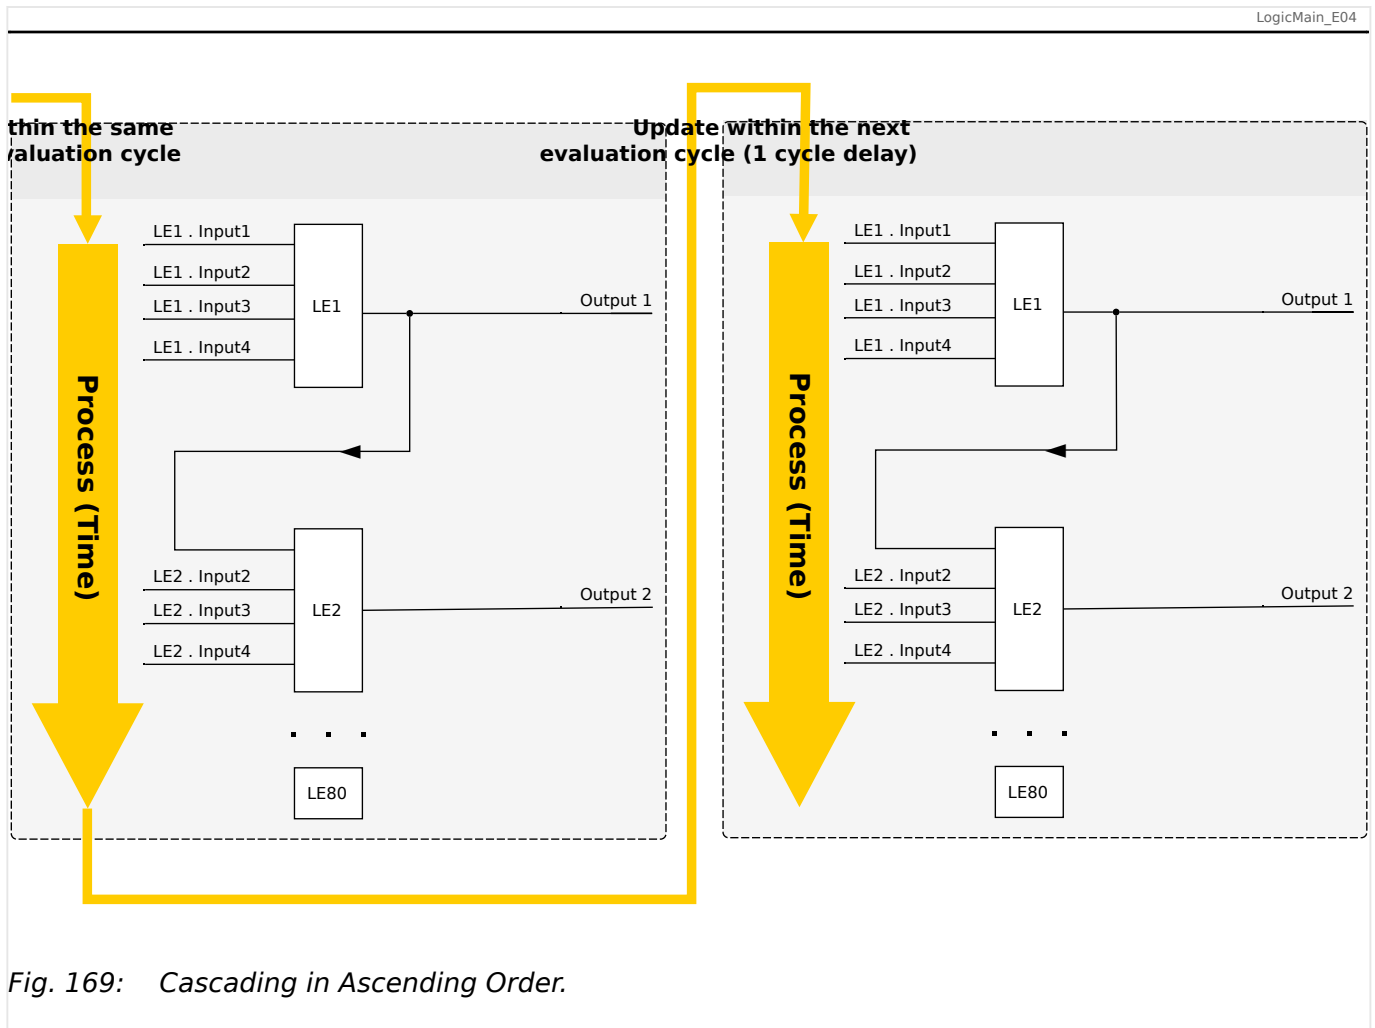
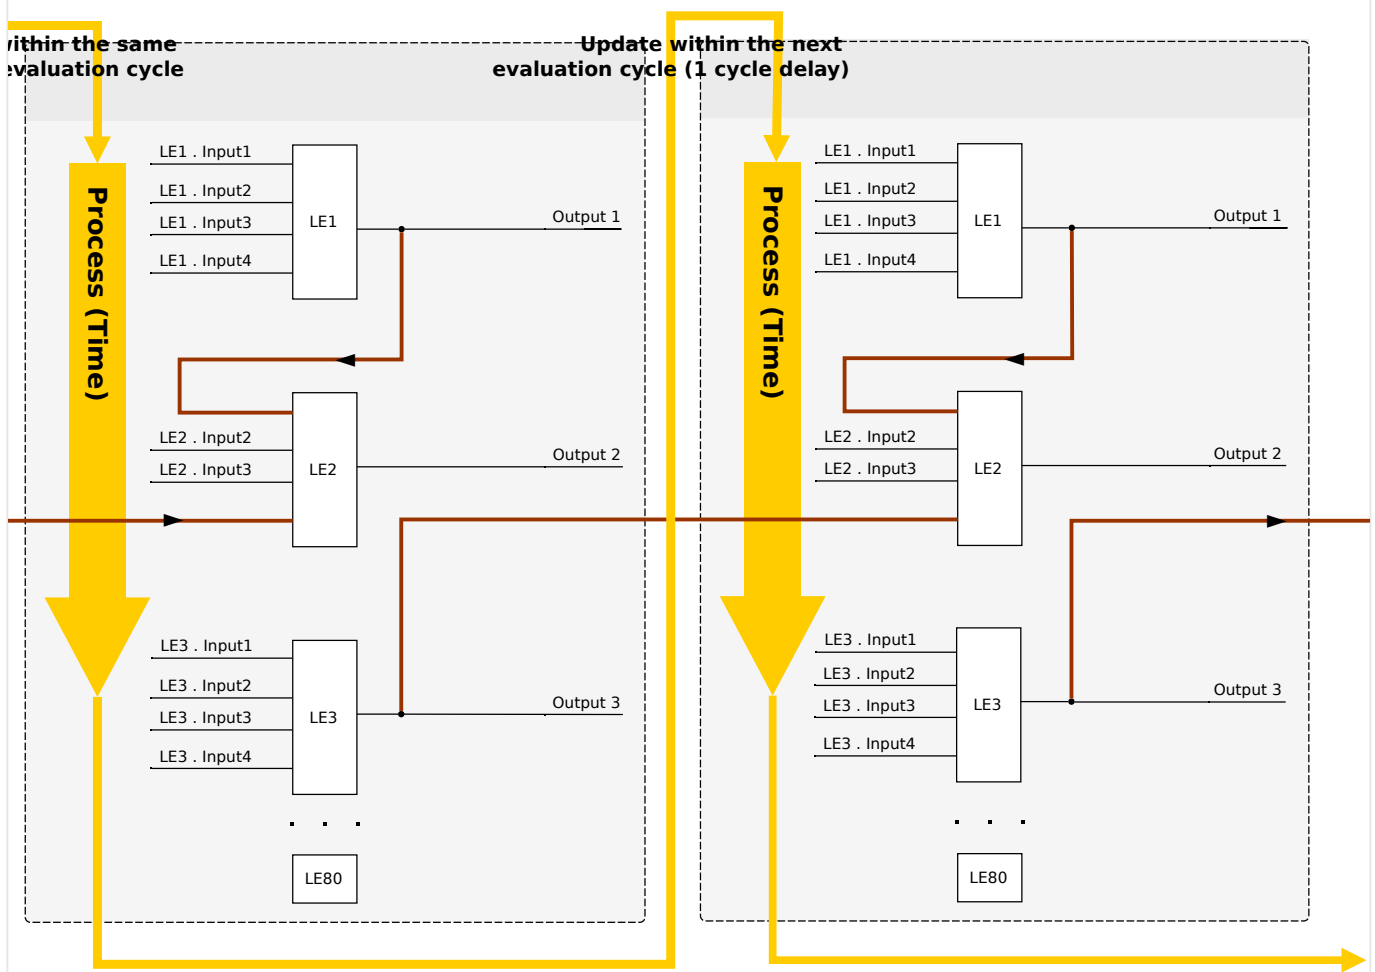

Fig. 169: Cascading in Ascending Order.
Fig. 170: Cascading in Descending Order.
- **Ascending** sequence means that some output is fed into the input of a logic equation with **higher** number. For instance, diagram ↪Fig. 169 below shows an example where the result of Logic Equation LE1 is used as an input of Logic Equation LE2.
- **Descending** sequence means that some output is fed into the input of a logic equation with **lower** number. For instance, diagram ↪Fig. 170 shows an example where the result of Logic Equation LE3 is used as an input of Logic Equation LE2.
Both ascending and descending sequences may be used and combined one with the other, with no immediate difference. However, due to the evaluation of all equations in ascending order the actual run-time values that are fed in at the input of an equation will have a different “age”, as is shown in ↪Fig. 169 and ↪Fig. 170 below.
In the example shown in Fig. 170 above, “Logic Equation 2” uses the output states of two other equations, “Logic Equation 1” and “Logic Equation 3”. The result of “Logic Equation 1” is used in ascending order and has therefore been evaluated within the same process cycle. The result of “Logic Equation 3” is used in descending order and has therefore been evaluated in the previous process cycle.